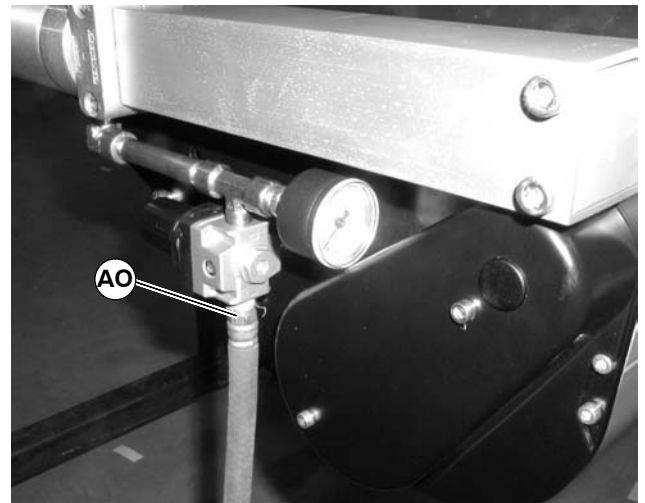

Figure 84
1. Remove air supply (AO of Figure 84) from center drive module.